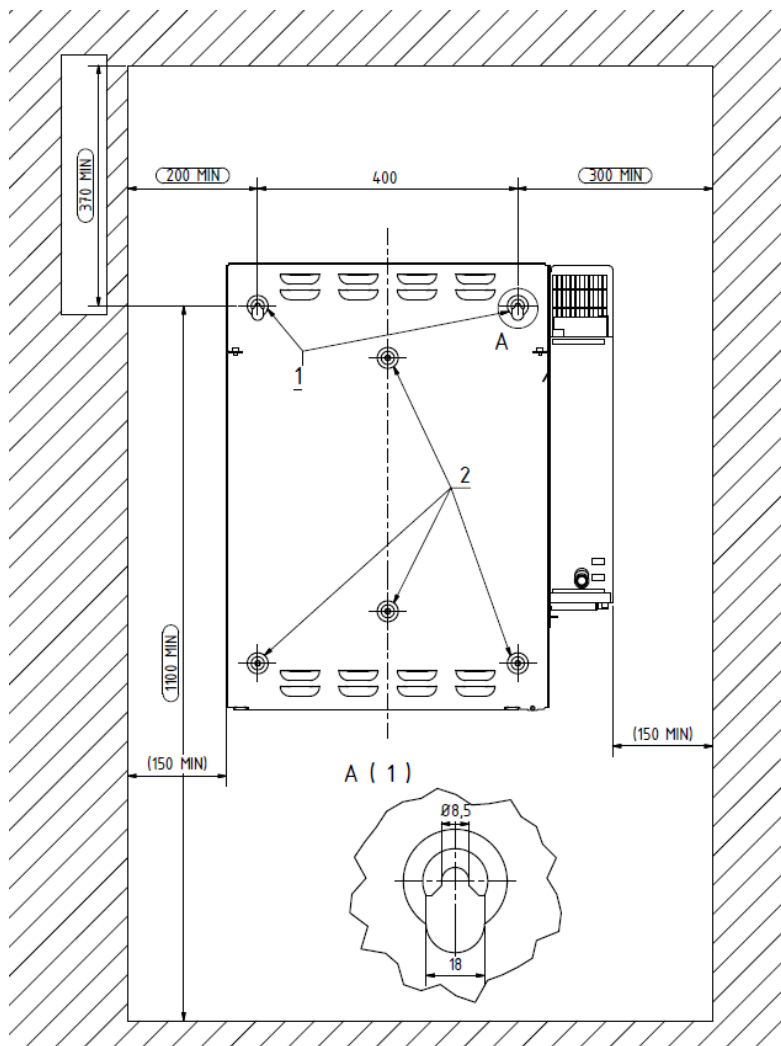

Figure 14: Dimensions on mounting plate (mm)
- (1) Mark the positions of the upper right and left holes as shown in Figure 14 "Dimensions on mounting plate (mm)". (Position 1 in the drawing)
- (2) Remove the mounting plate with battery inverter from the worksite.